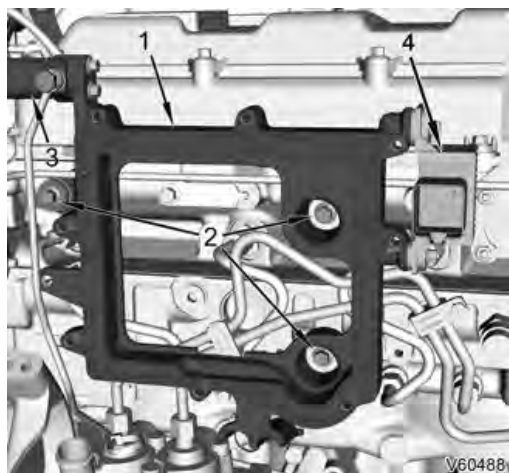

Figure 28. ECM Support
17. Position ECM support bracket on engine and reinstall six bracket insulators and three M8 x 40 bolts. Torque bolts to 120 lb-in (13.6 N·m) (Figure 28).